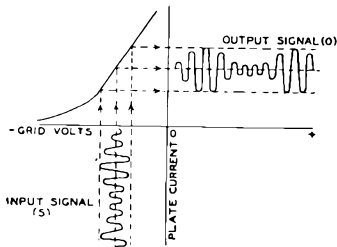

Fig. 4
As a **Class A voltage amplifier**, a radio tube is used to reproduce grid voltage variations across an impedance or a resistance in the plate circuit. These variations are essentially of the same form as the input signal voltage impressed on the grid, but of increased amplitude. This is accomplished by operating the tube at a suitable grid bias so that the applied grid-input voltage produces plate-current variations proportional to the signal swings. Since the voltage variation obtained in the plate circuit is much larger than that required to swing the grid, amplification of the signal is obtained. Fig. 4 gives a graphical illustration of this method of amplification and shows, by means of the grid-voltage vs. plate-current characteristics, the effect of an input signal (S) applied to the grid of a tube. (O) is the resulting amplified plate-current variation.